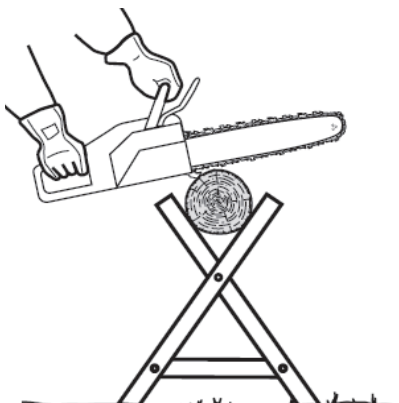

Fig. 41
- Support small logs on a sawing stand or another log while bucking (Fig. 41).